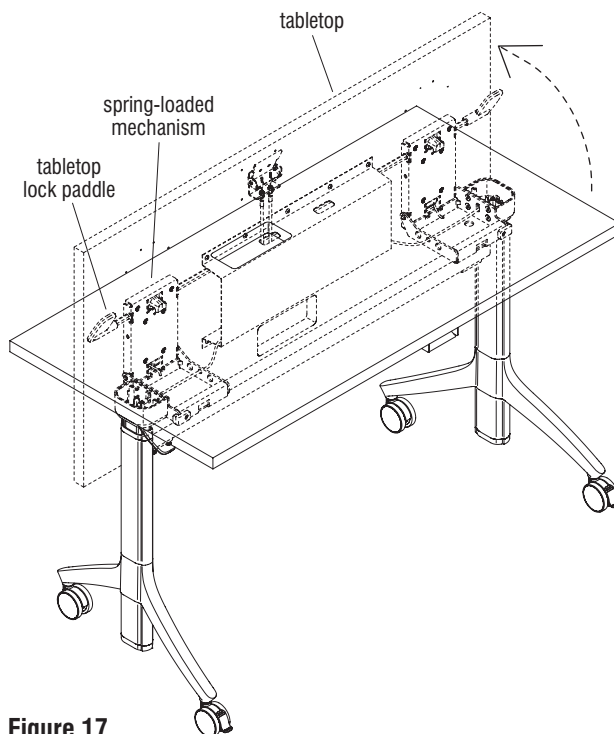

Figure 17
40. Begin "Test 2" adjustments by lifting a lock paddle and rotate the tabletop into the nesting position to gain access to the height actuator handle and cables (Figure 17). At the side of the table which could be pressed down with the table raised, locate the appropriate cable housing and M8 nuts to lessen that cable tension. Using the $\frac{7}{16}$ " wrench, loosen the bottom M8 nut one-quarter to one-half of a turn, or until tension releases. Then, twist the top M8 nut down finger tight and use the $\frac{7}{16}$ " wrench to turn the nut one-quarter to one-half turn more to tighten it (Detail E2). Rotate the tabletop down to the use position, press the height actuator handle to raise the table, and test the side that was adjusted to see if it lowers with pressure. If it does not lower, no more adjustment is required, but if it does lower, repeat step 40 above.